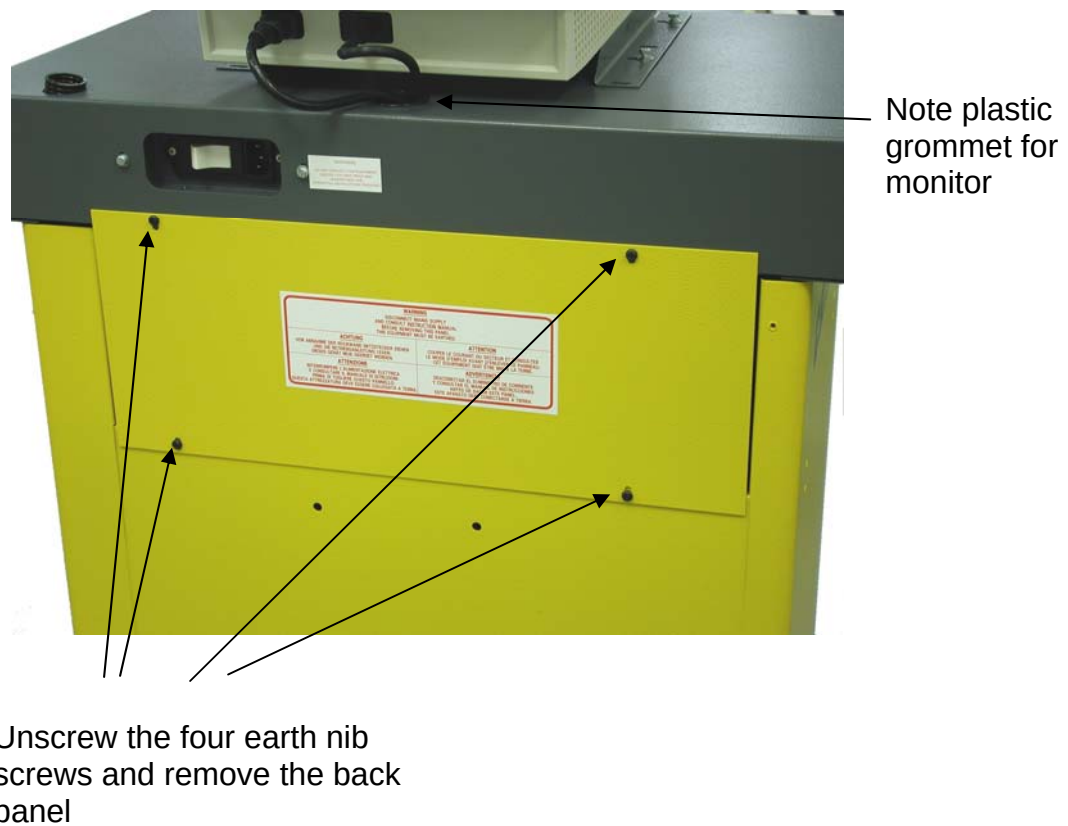

Fig. 1
1. Remove the back panel as shown in Fig. 1 by unscrewing the 4 earth nib Philips screws. The panel is connected to the main trolley by an earth bonding wire; take care not to strain or damage the lead while the back panel is removed. Note the plastic grommet for the monitor cables, this will need to be removed later when fitting the monitor.
4. Remove the plastic grommet from the hole in the trolley immediately behind the Monitor (Fig. 1). Feed the monitor signal lead through the grommet from the top and then down through the hole in the metalwork. The monitor mains lead is already fitted and the free end will be lying with the computer. Feed this up through the metalwork and then through the grommet from the bottom. Replace the grommet.